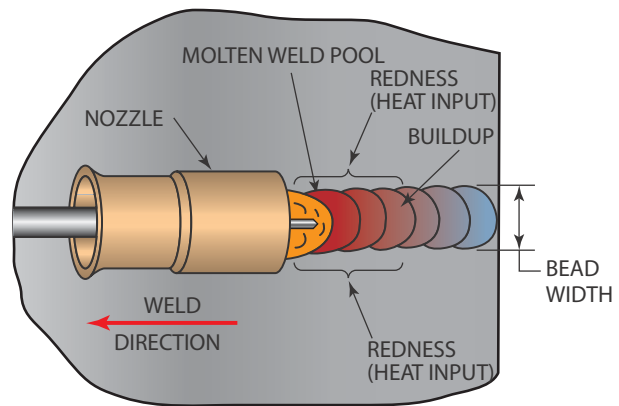

FIGURE 12-8 Watch the trailing edge of the molten weld pool. © Cengage Learning 2012
- **Joint following**—It is harder to follow the joint because of your hand position with the GMAW gun positioned over the joint, and you may wander from the seam, Figure 12-8.